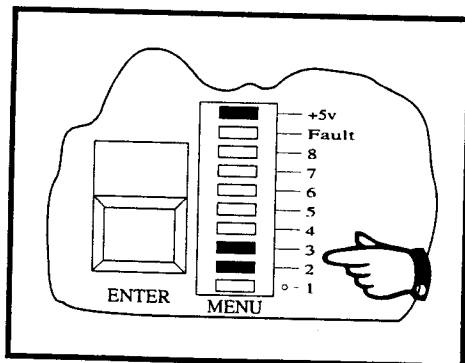

Figure 3-12
- (b) Press the blue **FUNCTION** key **ONCE**. The **Menu** display should cease scrolling and the segment labelled **1** should illuminate. Continue to press the **FUNCTION** key until the segments labelled **2** and **3** are illuminated simultaneously. This combination of segments identifies the auto-zero maximum correction adjustment function. See Figure 3-12.